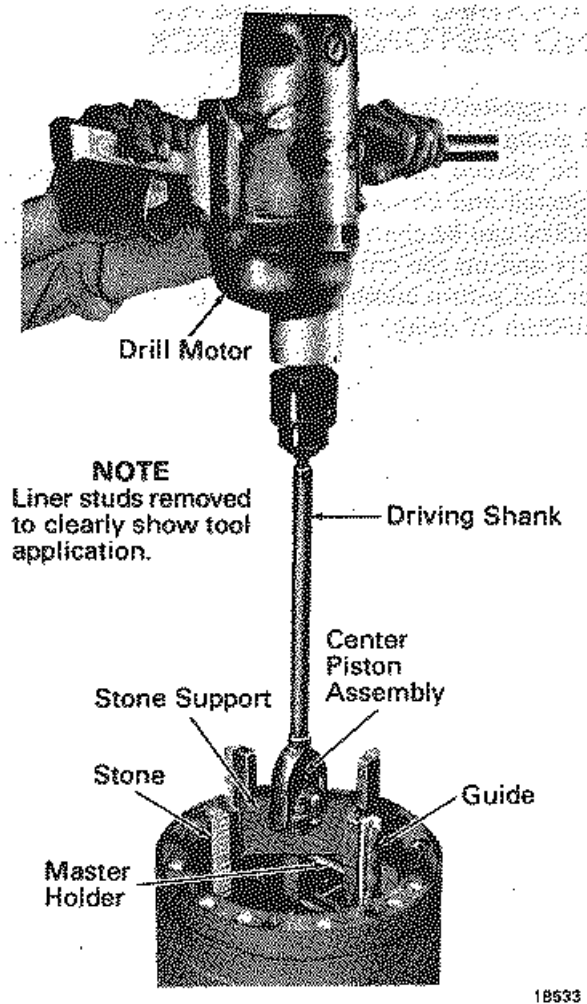

Fig. 4-7 - Honing Cylinder Liner
4. Chuck the hone shank in the drill motor, and insert the hone into the liner, Fig. 4-7. Stones should not protrude more than 12.7 mm (1/2") out of liner bore.